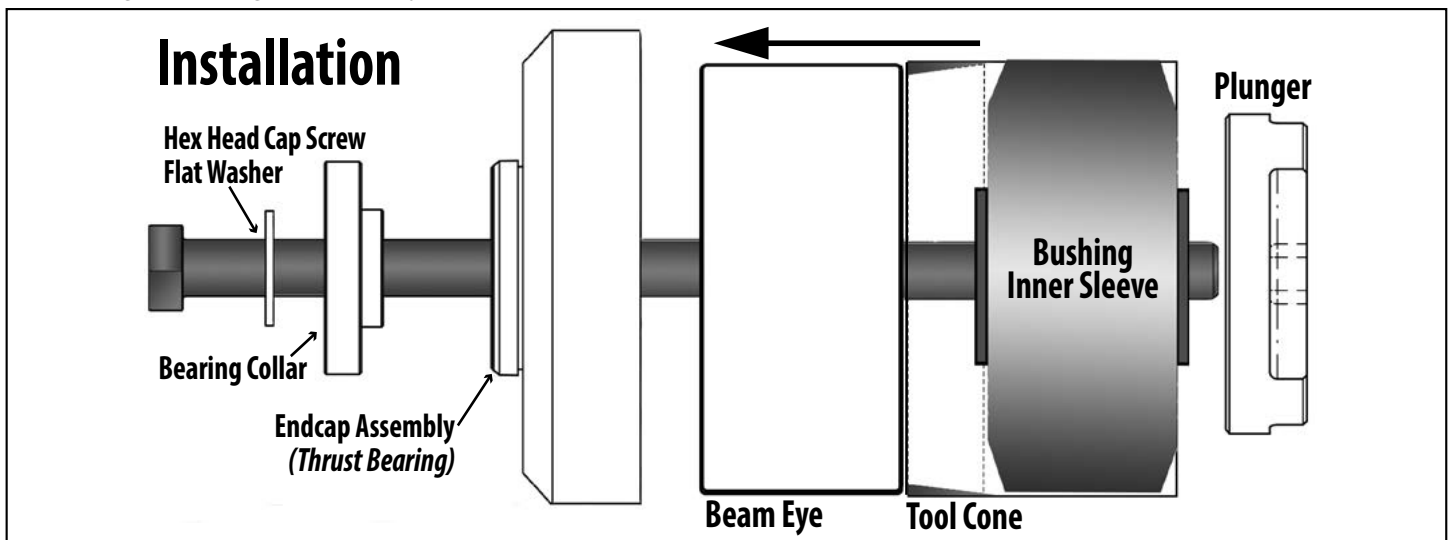

Figure 7.
2. Liberally apply P80[®] lubricant or a soap solution to the inside of the beam eye, the outside of the new bushing and inside the tool cone. Insert replacement bushing into the larger opening of the tool cone (Figure 7).